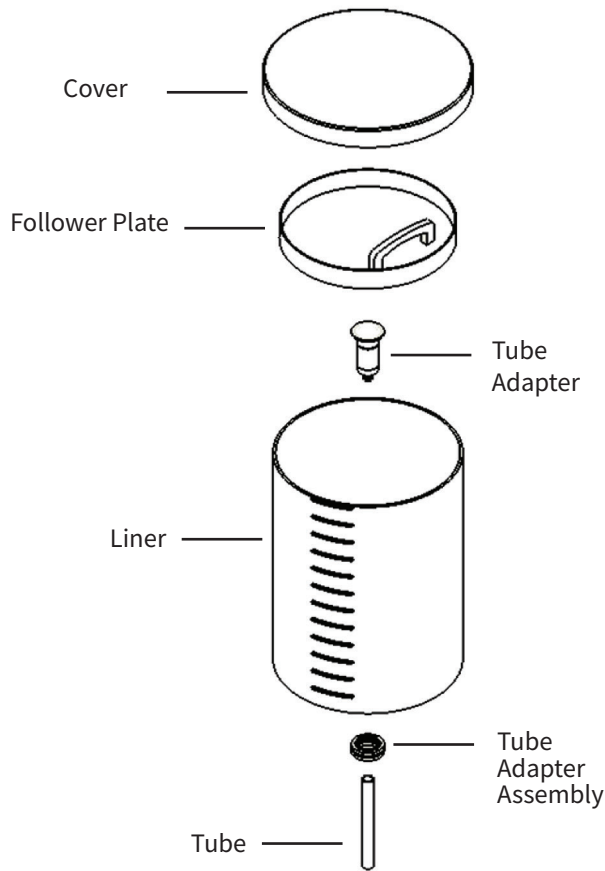

Figure 1. Liner Assembly
1. Carefully unwrap the components of the Liner Assembly (Figure 1) and verify that all the pieces are present.